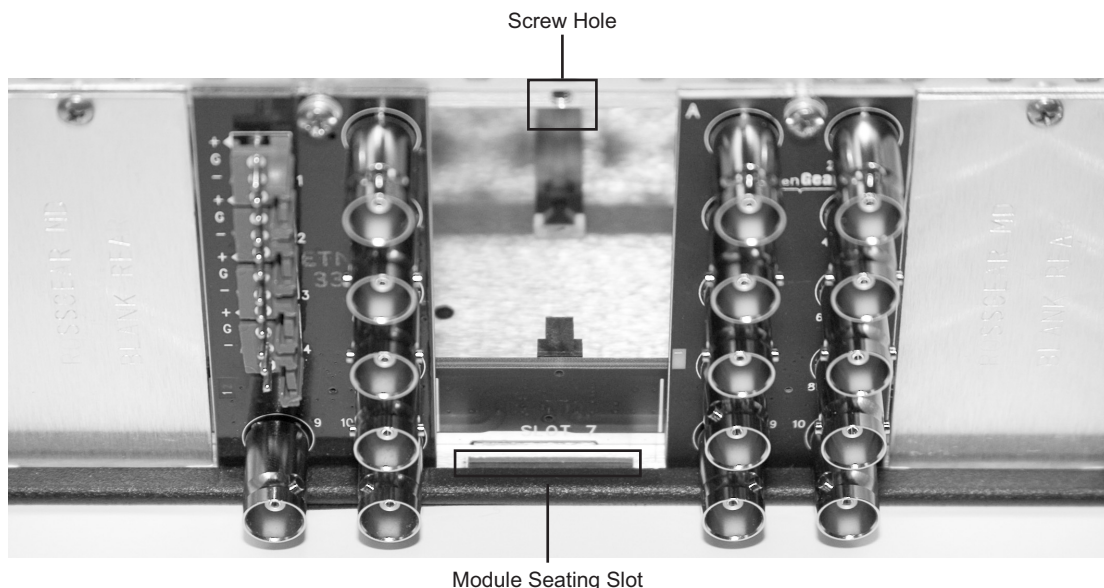

Figure 2.1 Rear Module Installation in a DFR-8310 Series Frame (DSS-8224 not shown)
3. Install the bottom of the Rear Module in the **Module Seating Slot** at the base of the frame’s back plane. (**Figure 2.1**)